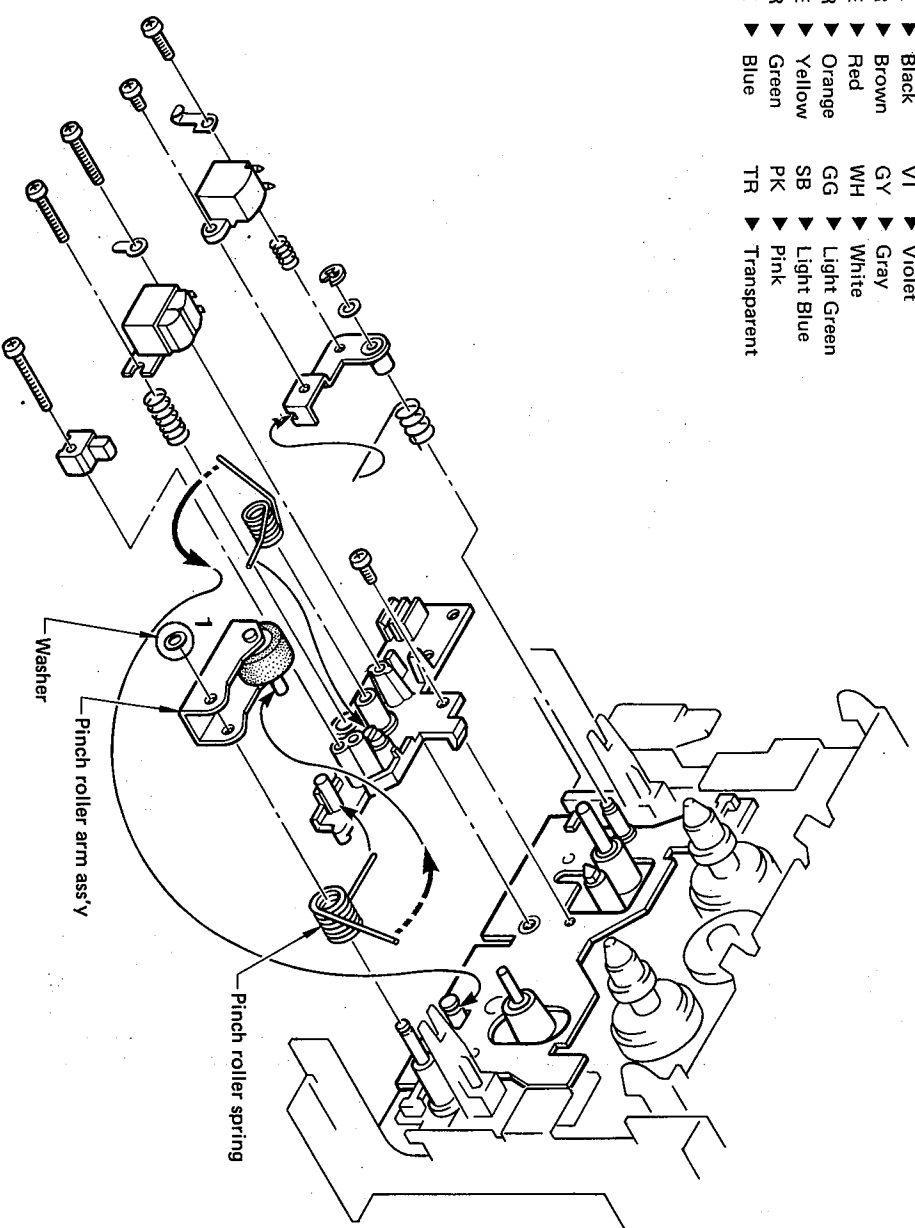

Fig. 10
- b. Remove the washer ① in fig. 10 and then replace the pinch roller arm ass'y.
- * Refer to fig. 10 as to the position of pinch roller spring.